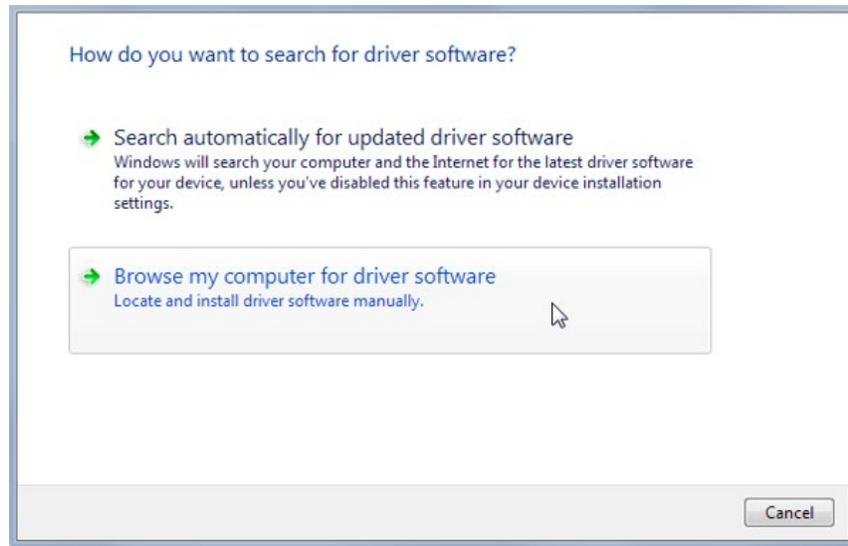

Figure 52-4. Update Driver Software - BE1-700
Step 4. Select Browse My Computer for Driver Software as shown in Figure 52-4.